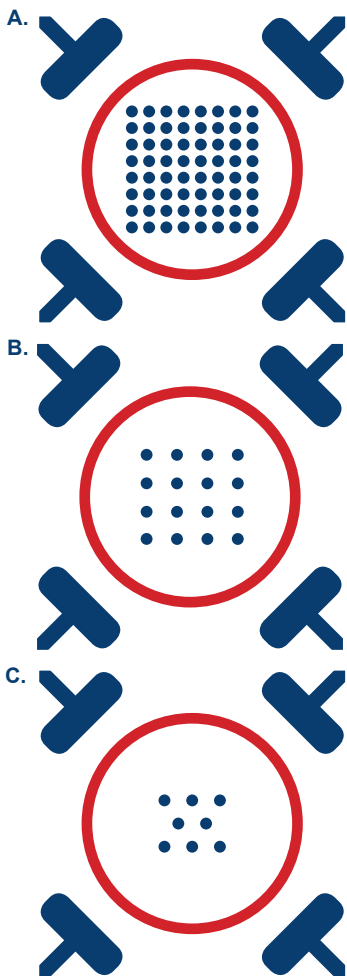

Figure 1: Drop Placement Diagram
6. Add a 5 µL droplet of solution over the MEA electrode area in a bio-safety cabinet. Incubate for 1 hour at 37°C in a cell culture incubator. Look to Figure 1 page 7 for placement.
11. Add a 5 μ L droplet of laminin over the MEA electrode area in a bio-safety cabinet. Look to Figure 1 on page 7 for placement.
24. Seed a 5 μ L droplet of the suspension (80,000 neurons) directly over the array of electrodes in each pre-treated well. See Figure 1 on the left for an example of drop placement.